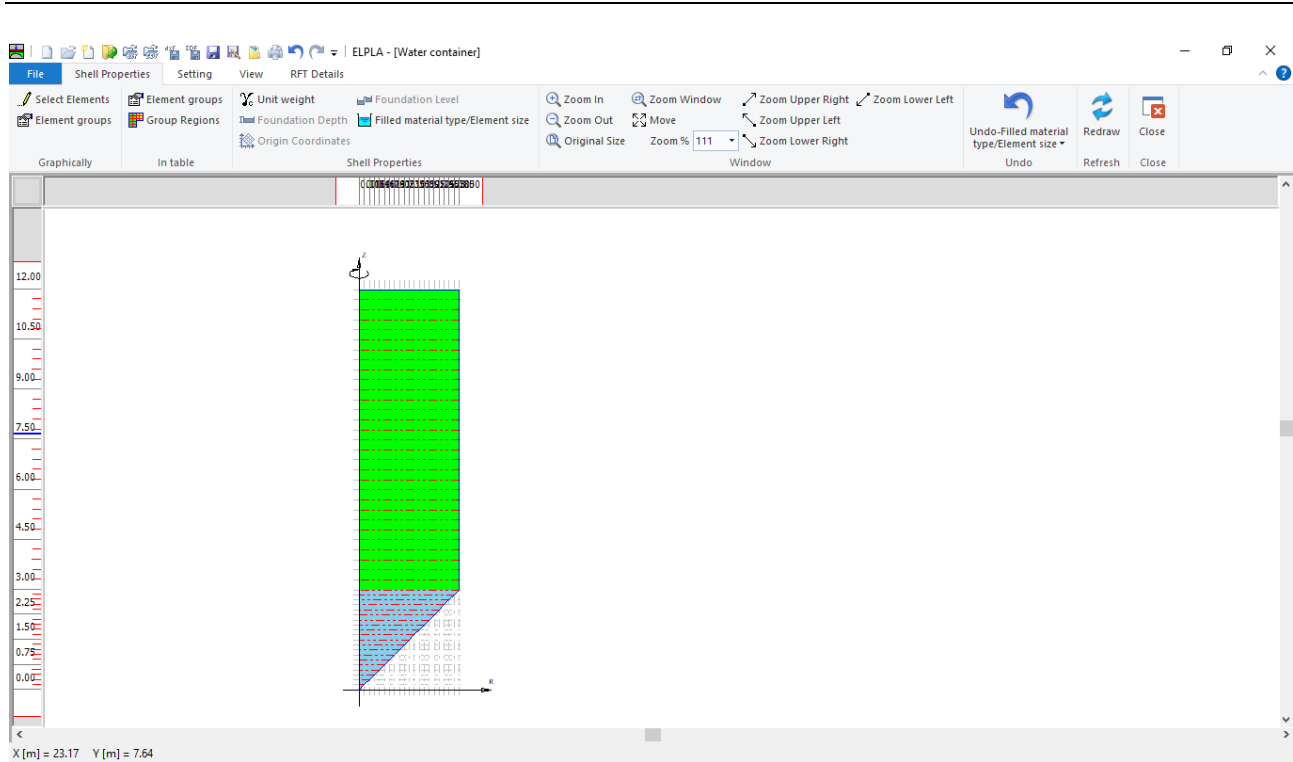

Figure 10.16 "Shell Properties" window after defining the container properties
- Choose "Save" command from "File" menu in Figure 10.16 to save the shell properties
- Choose "Close" command from "File" menu in Figure 10.16 to close the "Shell properties" window and return to *ELPLA* main window